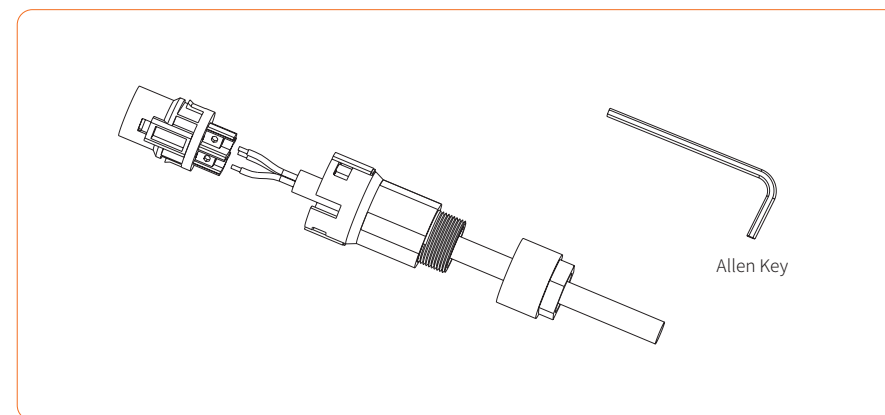

Figure 4-18
- ③ Insert the stripped end of each three wire into the appropriate hole of the terminal head (yellow green wire to PE port, red or brown wire to L port, and blue or black wire to the N port). Please try to pull out the cable to make sure it is well connected. As shown in Figure 4-18: